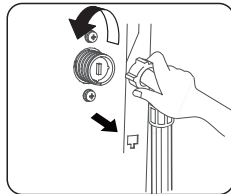

Fig. 19
- Unscrew the water inlet hose (Fig. 19).